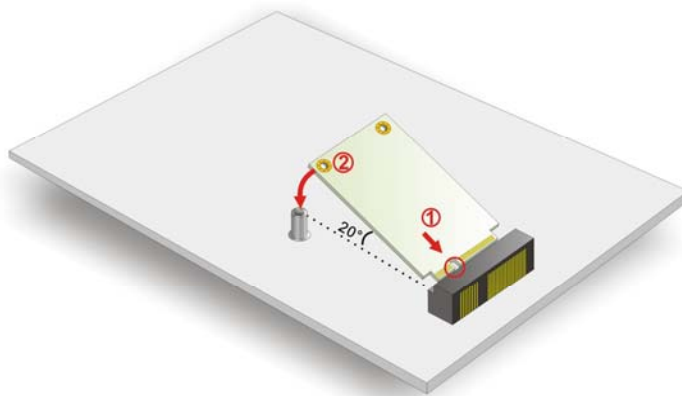

Figure 4-10: Insert the mSATA Card into the Socket at an Angle
**Step 3: Insert into the socket at an angle.** Line up the notch on the card with the notch on the connector. Slide the mSATA card into the socket at an angle of about 20° (**Figure 4-10**).